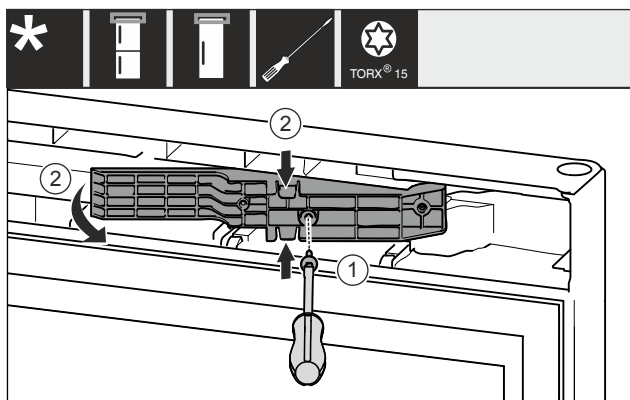

Fig. 12 *
- Loosen the screws with the T15 screwdriver. Fig. 12 (1)*
- Pull out the adaptor. Fig. 12 (2)*